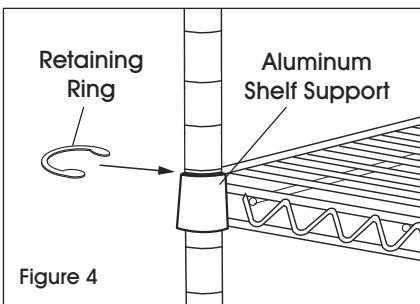

Figure 4
- Stand unit upright. Gently tap shelf down to secure it. Attach retaining ring to the top of each aluminum shelf support in the provided groove. (See Figure 4)